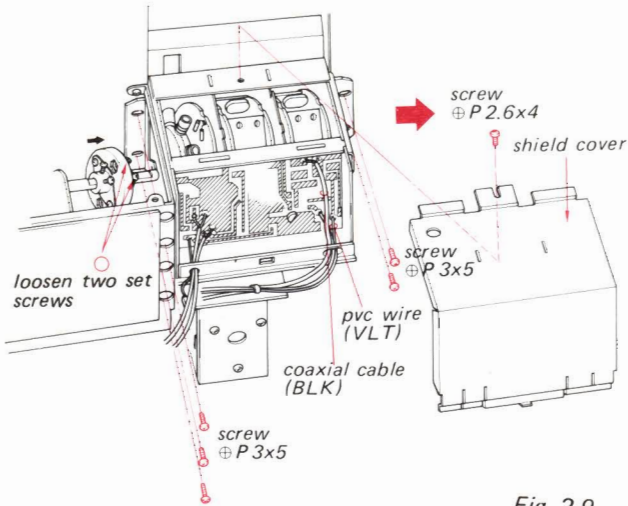

Fig. 2-9
3. Remove the six screws and the shield cover as shown in Fig. 2-9 and unsolder the two lead wires.